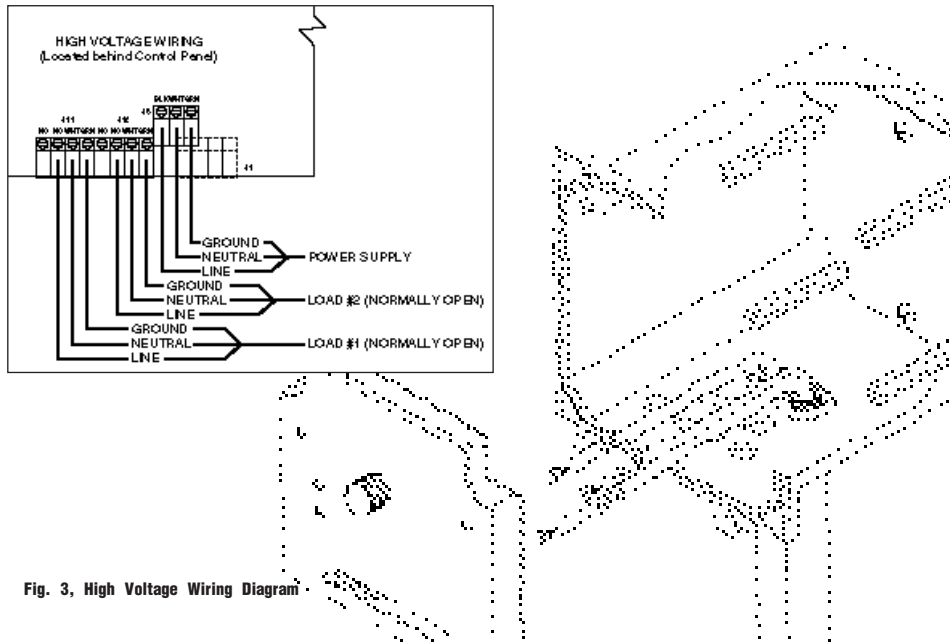

Fig. 3, High Voltage Wiring Diagram
Units must be wired by the customer, refer to Fig. 3 (also see Fig. 10) for wiring the high voltage connections. The connector JP16 is for the AC input voltage, JP4 and JP5 are relay driven AC outputs, they change simultaneously and have a maximum output of 5 amps.
It employs a normally open (NO), a normally closed (NC), and common (or neutral) connections. In this example, the first device is connected at JP5. Location is behind control panel (see Figure 3).